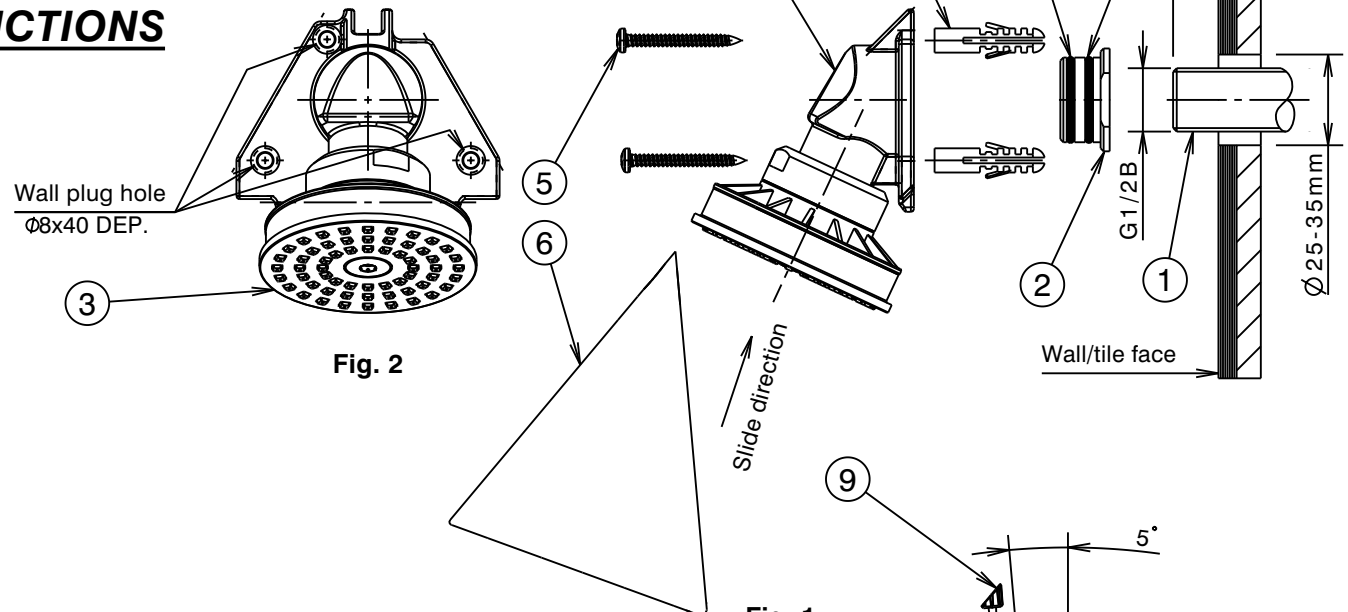
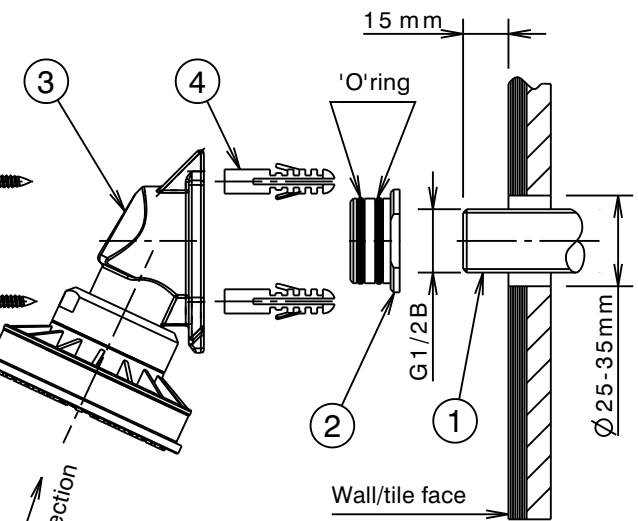
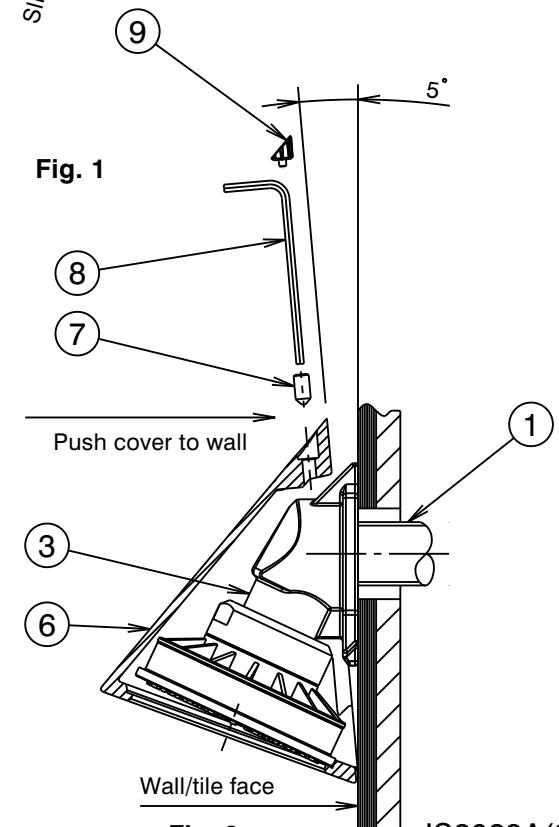

Fig. 2
Fig. 1
Fig. 3
- 1) Check that threaded nipple (1) is the correct length as shown in Fig. 1. Cut to length if required ensuring end face is square. Apply thread tape to the thread.
- 2) Screw inlet adaptor (2) onto threaded nipple (1) and tighten using spanner until adaptor (2) is held securely against wall/tile face. DO NOT OVERTIGHTEN. Apply suitable lubricant to 'O'Rings on adaptor (2).
- 3) Fit engine (3) into adaptor (2) until it is against the wall, then use engine (3) as a template to mark wall plug position center. as shown in Fig. 2. Bottom straight edge of engine (3) use to level the assembly before marking. Remove engine (3) from adaptor (1).
- ii) Insert tapered end of wall plugs (4) into drilled holes and tap until flush with wall/tile face.
- 5) Re-fit engine (3) onto adaptor (2) until it is against the wall/tile face. Pass the screws (5) through the screw holes in engine (3) and insert into the wall plugs (4), then tighten until the engine (3) is mounted securely against the wall/tile face.
- 6) Tilt wall cover around 5 degree from wall, slide wall cover over engine (3) from the bottom of engine as shown in Fig. 1 & Fig. 2. After wall cover plate seats onto the engine (3) as shown in Fig. 3, push cover onto wall until it firmly against wall/tile face, then tighten screw (7) using 2.5mm security Torx key (8), one is provided . Fit cover cap (9) into the hole of wall cover plate (6).